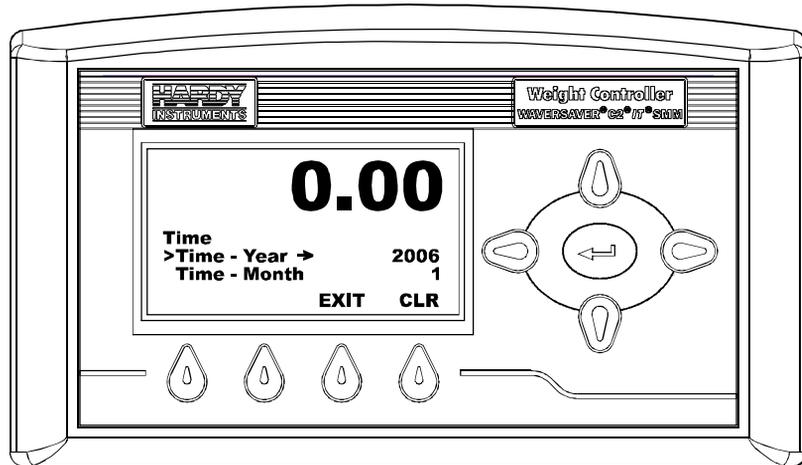

FIG. 98 TIME MENU/SELECTING YEAR
Step 3. Press the Left or Right Arrow buttons to select the time zone in your location. The present selected time zone is displayed. (See Fig. 98)